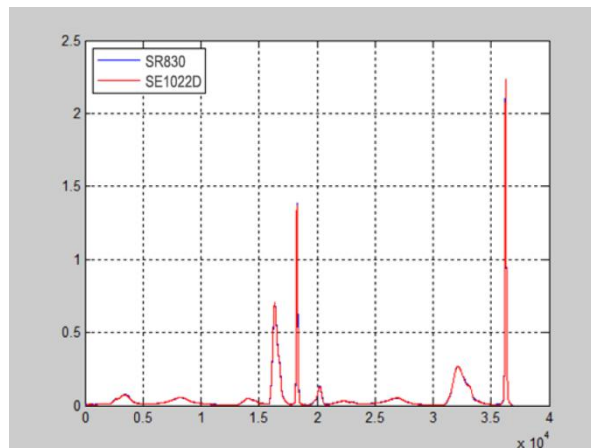

Fig.99 The Contrast Spectrum Curve between SR830 and SE1022D
5. Use the SR830 instead of the SE1022D to measure. Repeat the steps above to run the same experiment. Then you will get another spectral curve as is shown in Fig.99. You can see that these two curves measured by SE1022D and SR830 are almost the same.